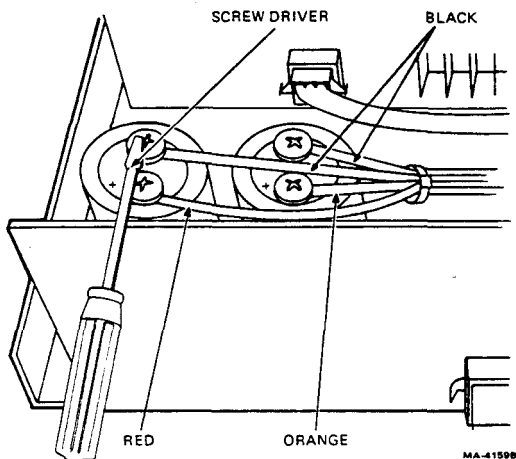

Figure 2-9 Capacitor C1 and C2 Connections
**Before attempting to remove the power supply, disconnect power from the drive. Then short out the two terminals on capacitors C1 and C2 (Figure 2-9).**
Observe the correct polarity when connecting the wires to C1 and C2 (Figure 2-9).